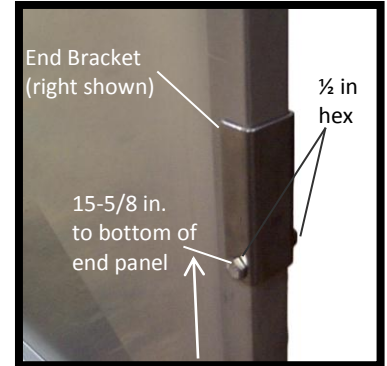

Figure 50: Mounting an end panel shelf mounting bracket
1. Drill a 5/16 in. hole completely through the rear vertical frame of the end or partition panel about 15-5/8 in. up from the bottom of the panel (Figure 50). **Note:** This will result in top of the resting shelf being approx. 18 in. above the bottom of the panel. You may mount the shelf higher or lower if preferred.